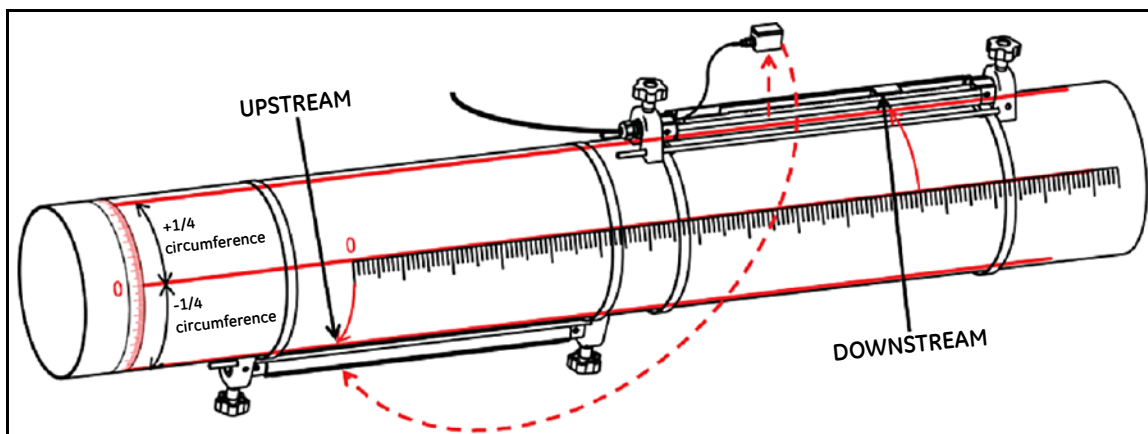

Figure 21: 1 Traverse Installation for Transducer Spacing >320 mm
For a one traverse installation with a calculated transducer spacing of >320 mm for a 1 MHz or 0.5 MHz transducer, two clamp-on fixtures are installed on opposite sides of the pipe. To install this configuration, refer to *Figure 21* below and complete the following steps:
- b. Remove the upstream transducer from the first fixture (see *Figure 21* below). Disconnect the transducer cable and route the cable into the second fixture.